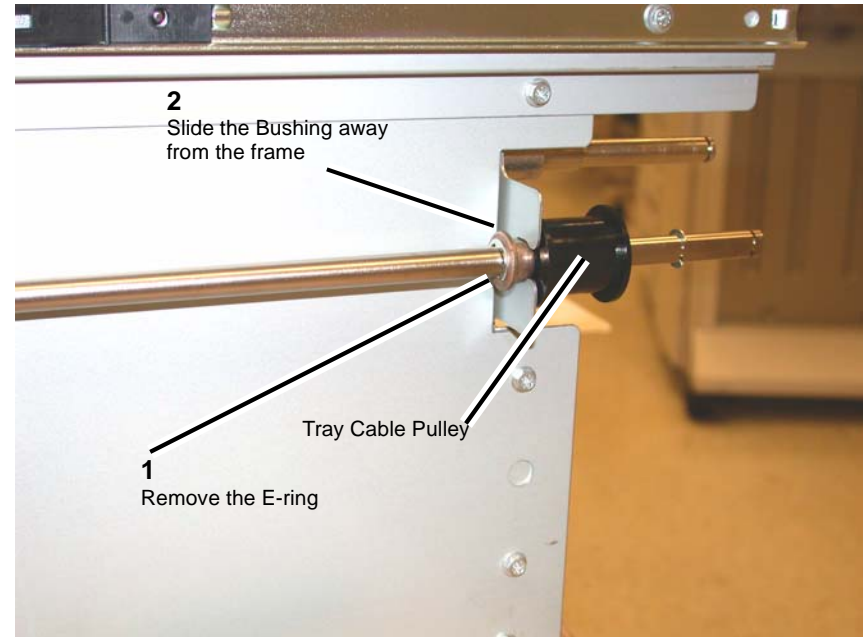

Figure 2 Lift Shaft Rear Tray Cable Pulley
3. At the rear of the HCF Tray, begin to free up movement of the Tray Cable Pulley (Figure 2).